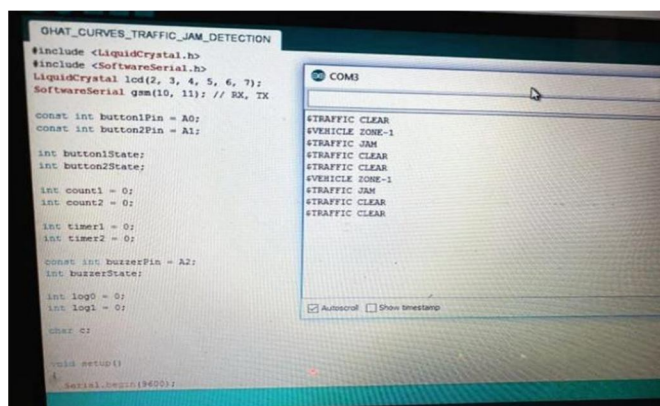

Fig 6. Analysing the output of road safety in ghat section
- 3) *STEP 3:* The fig 6 shows the output data. Sensor senses the object and gives the signal information to microcontroller arduino UNO. Microcontroller arduino UNO is powered by using laptop. It possesses and the output is shown in the serial monitor.